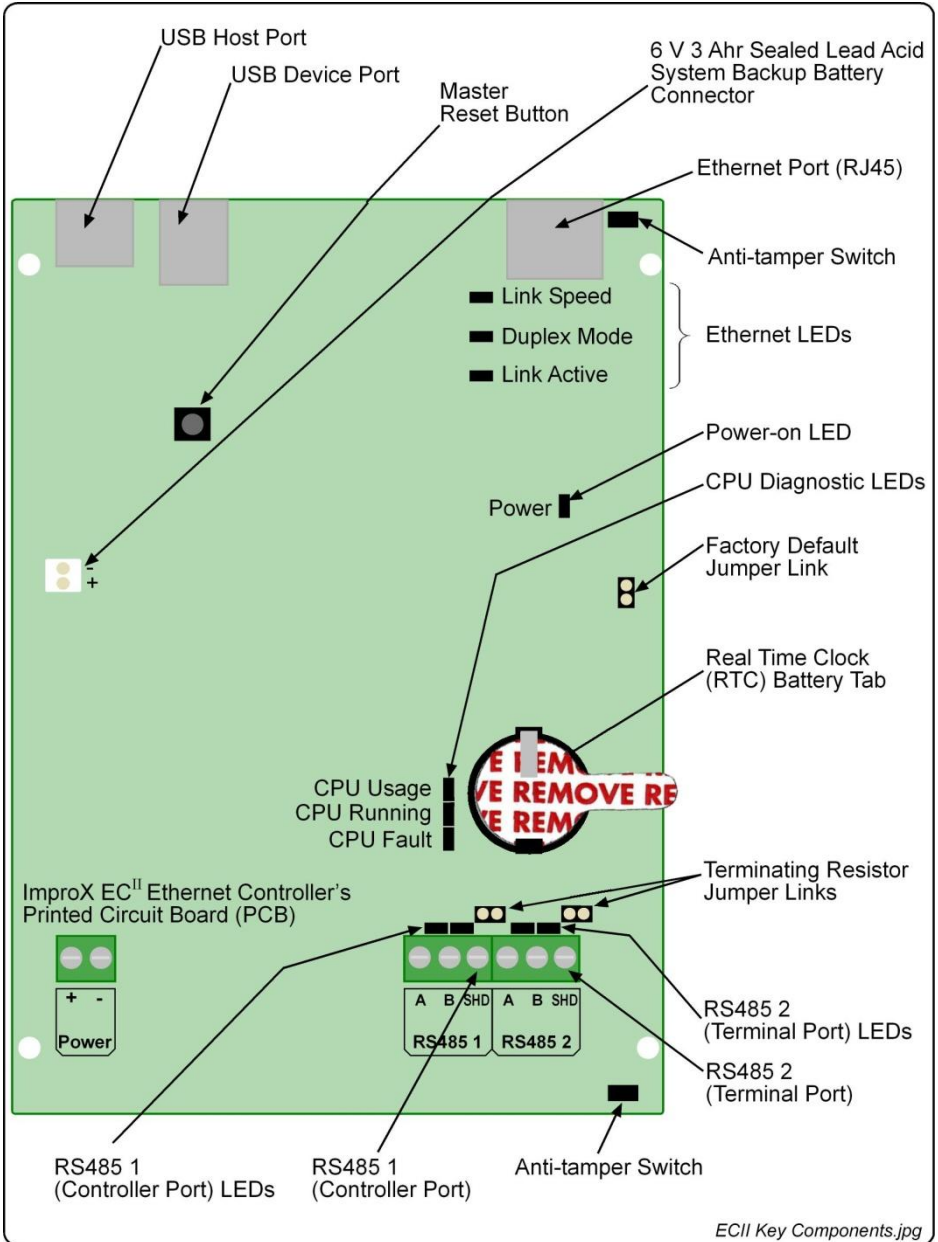
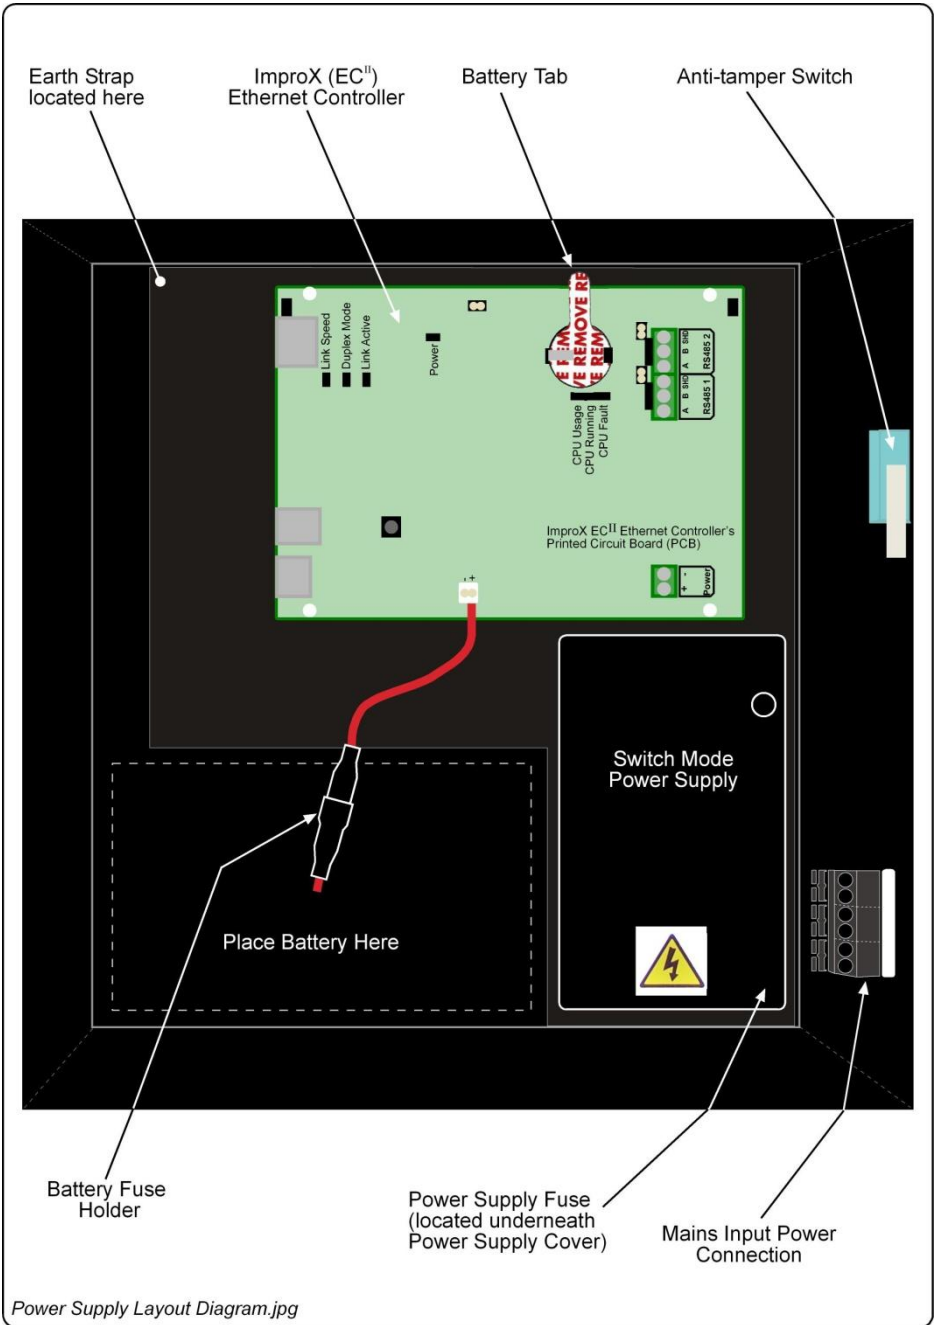

Figure 1: Key Component Positions
Figure 2: Power Supply Combo (IPS970) Layout Diagram – Top View
Long transmission lines or multiple “star” connections, may cause communication problems. Placing the Terminating Resistor Jumper Link in the LAST UNIT AT THE END OF THE CABLE RUN should solve the problem (depending on the bus). Refer to Figure 1 on page 8.
Refer to Figure 1 for the location of the Real Time Clock Backup Battery Holder.
2. Locate the removable Battery Tab in the Real Time Clock Battery Holder (See Figure 1 and Figure 2 for location).
2. Attach the Battery Fly Lead to the System Backup Battery Connector (see Figure 1 for Key Component Positions).
NOTE: *During mounting, we recommend removing the Power Supply Combo's Earth Strap. As indicated in Figure 2, locate and disconnect the Earth Strap from the Lid of the Cabinet. This allows easy removal and replacement of the Lid during installation. After installation, we strongly recommend you reattach the Earth Strap to the Lid.*
The ImproX EC^{II} Controller can be restarted manually, without removing the power connections, by pressing the Master Reset button (See Figure 1 for Key Component Positions).
1. With power applied to the ImproX EC^{II} Controller, place a link across the pins of the Factory Default Jumper Link (LK4). (See Figure 1 for Key Component Positions).